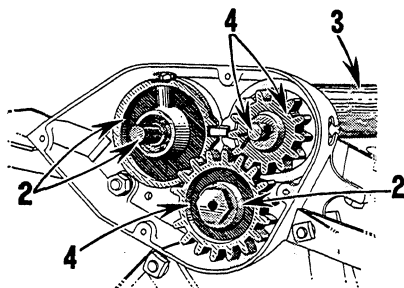

Figure 66
4. (Figure 66) Replace gears, being sure that rear boxes are locked in elevator bracket.